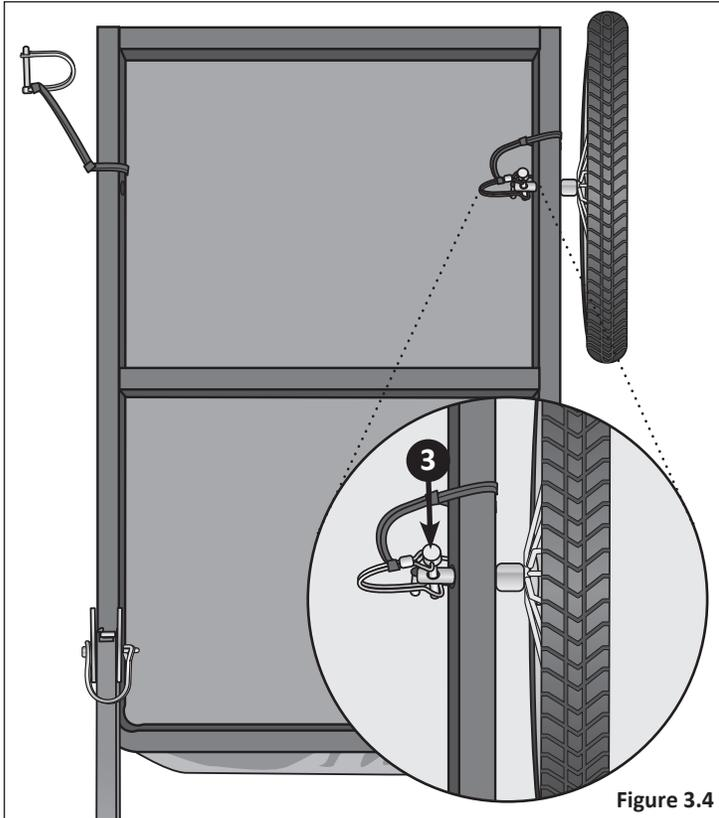

Figure 3.4
- 3** Insert the locking pin into the hole on the end of the axle and slide the end of the safety loop over the end of the locking pin. Check that the locking pin is securely in place. **Figure 3.4**